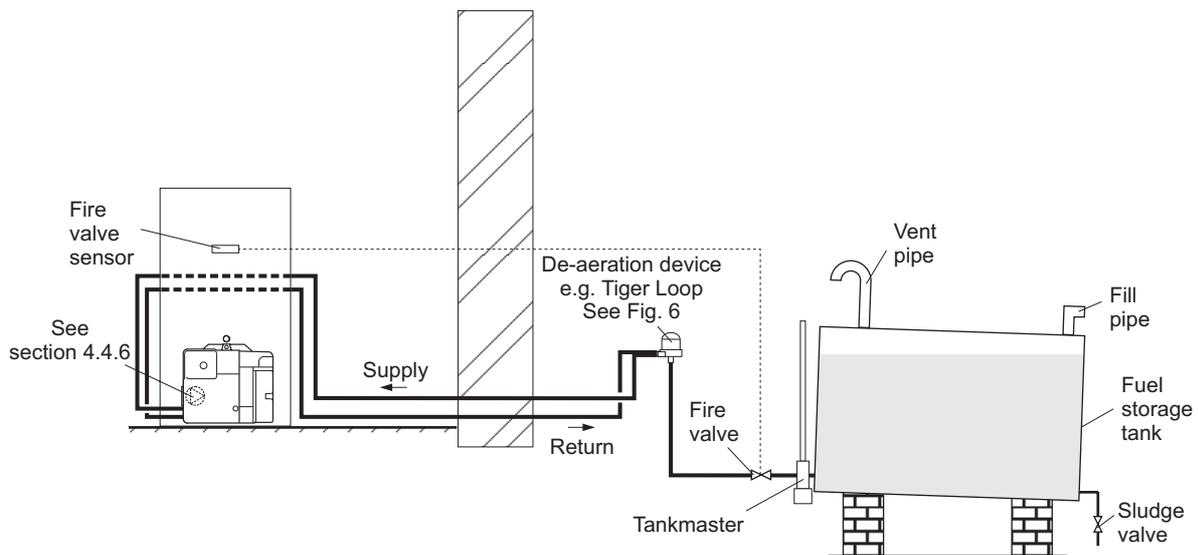

Fig. 5 - De-aeration device system
4.4.5 Tiger Loop system - (See Figs. 5 and 6)
- 2 The de-aerator is connected close to the boiler as a two pipe system (omitting the non-return valve) as shown in Fig. 5. Refer to the manufacturers instructions supplied with the de-aerator. The de-aerator **must** be mounted vertically and external.